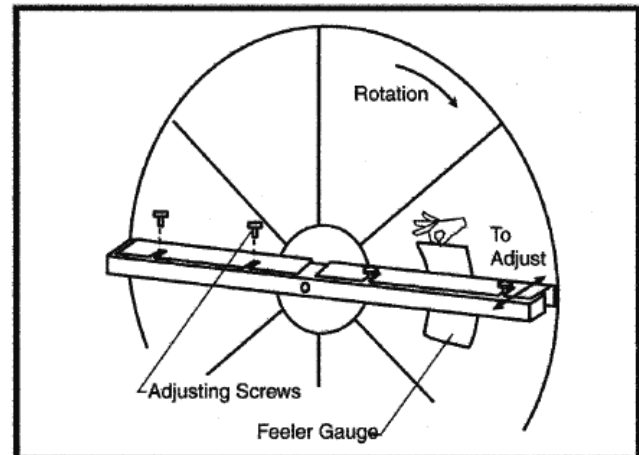

Figure 7 – Diameter Seal Adjustment
1. Loosen diameter seal adjusting screws and back seals away from the wheel surface. See figure 7.